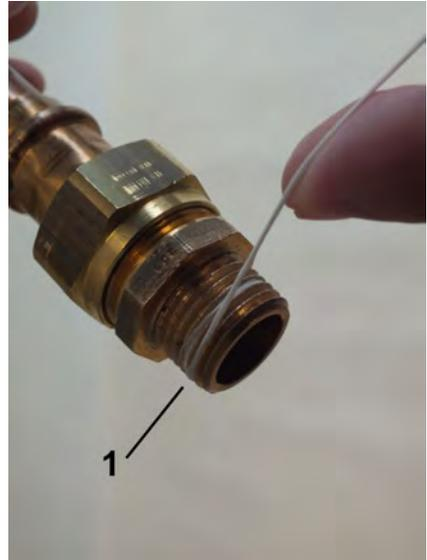

Fig. 9: Apply sealing thread
2.  Apply sealing thread (Fig. 9/1) to the napped area in the threaded direction. Observe the quantity recommended by the sealant manufacturer